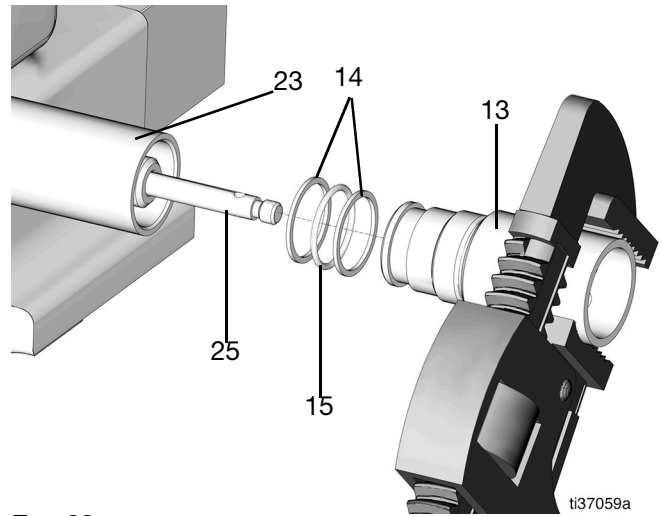

FIG. 63
20. Replace the two shovel tube (13) back-up rings (14) and the o-ring (15) and grease lightly (FIG. 63).
21. Place the shovel tube (13) into the pump lower tube (23) and tighten (torque 32 ft-lb/43.4 N•m) (FIG. 63).